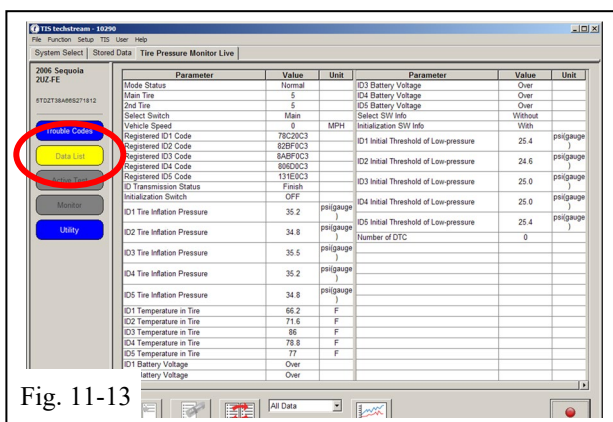

Fig. 11-13
- (p) Select “DATA LIST” to view and confirm the TPMS ID numbers have been correctly registered (Fig 11-13).